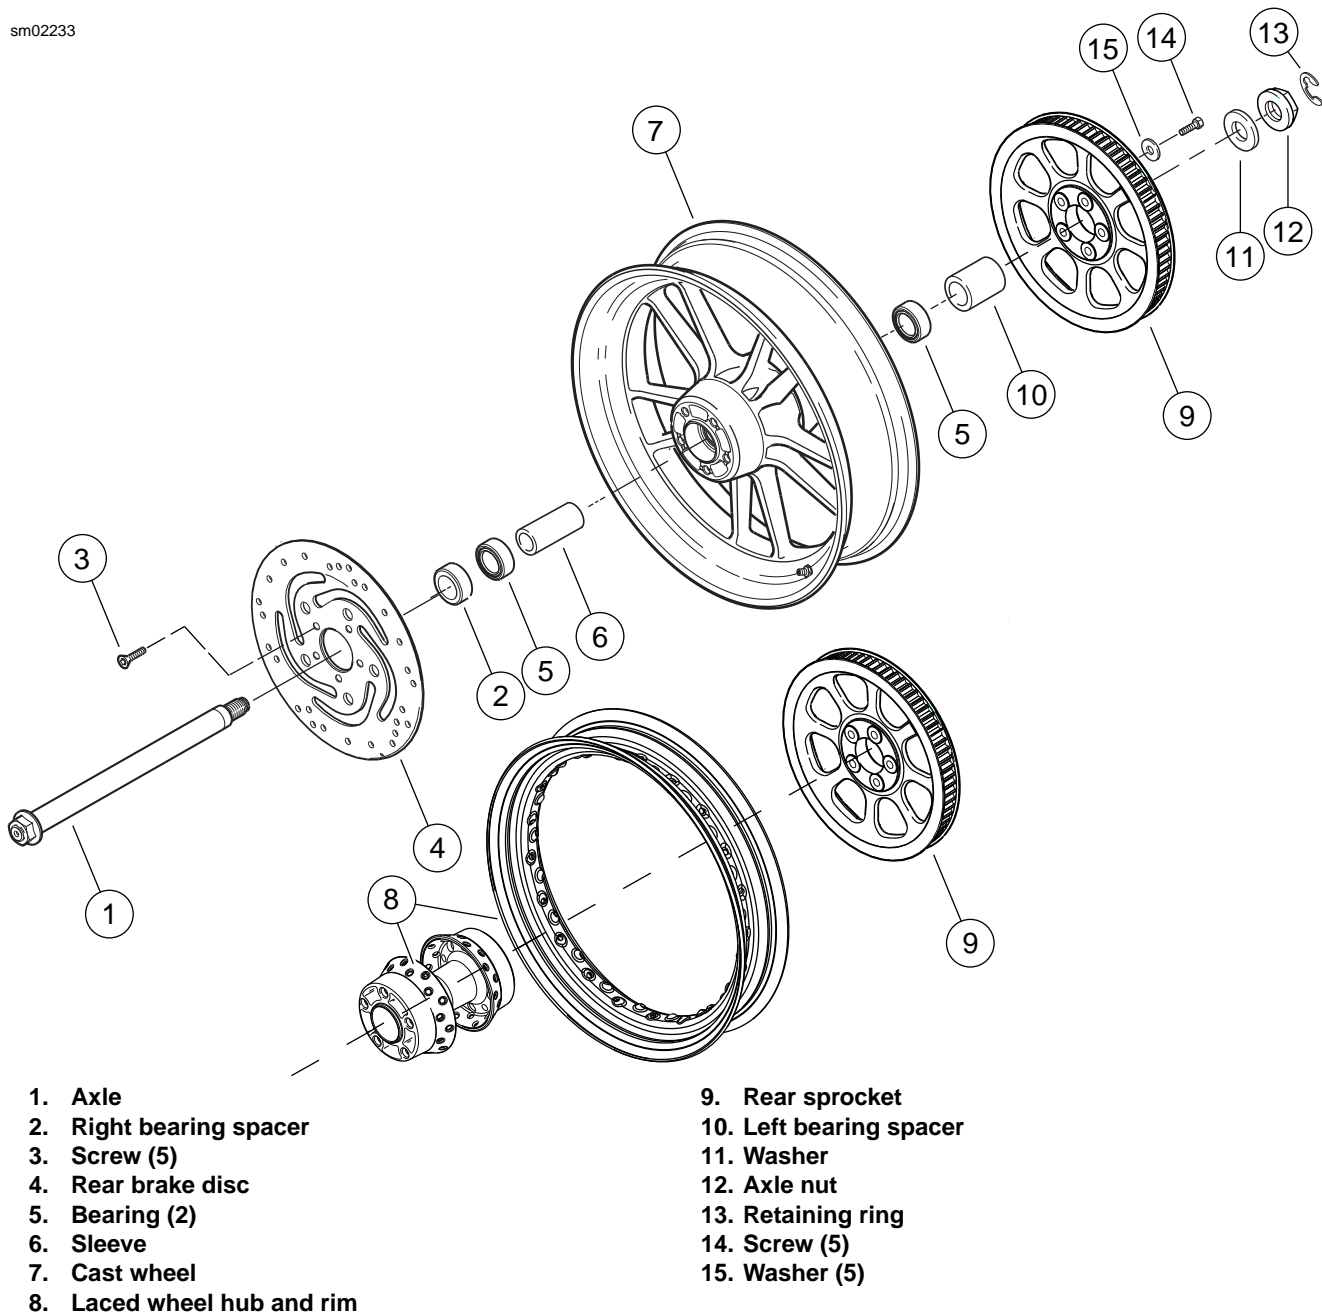

Figure 2-12. Rear Wheel/Hub
1. See Figure 2-12. Remove spacers (2, 10) from left and right sides.
- a. On left side of wheel, remove five screws (14) and washers (15) to detach rear sprocket (9). Discard screws.
- b. On right side of wheel, remove five screws (3) to remove rear brake disc (4). Discard screws.
2. See Figure 2-12. Using **new** screws (3), install brake disc (4) on wheel if removed.
4. Using **new** screws (14), install belt sprocket (9) if removed.